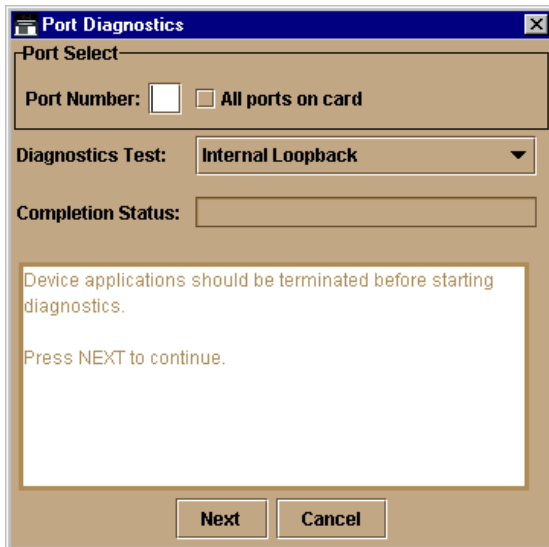

Figure 3-14: Port Diagnostics Dialog Box
6. At the navigation control panel, select Port Diagnostics from the Maintenance menu. The Port Diagnostics dialog box displays (Figure 3-14).
8. At the navigation control panel, select Port Diagnostics from the Maintenance menu. The Port Diagnostics dialog box displays (Figure 3-14 on page 3-30).